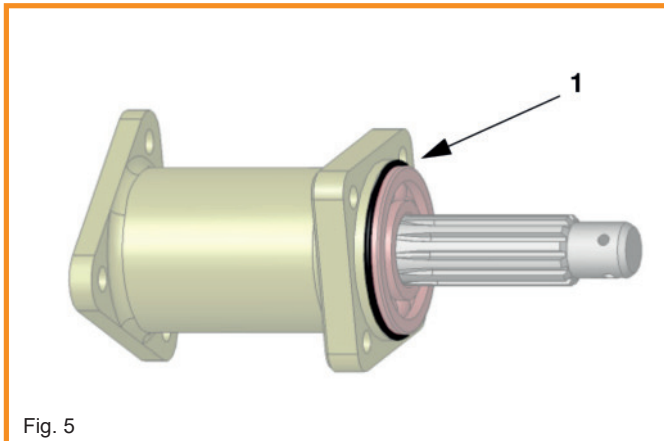

Fig. 5
- Install the O-ring (Pos:1, Fig.1) on the wheel bearing as shown in the picture Fig.5.